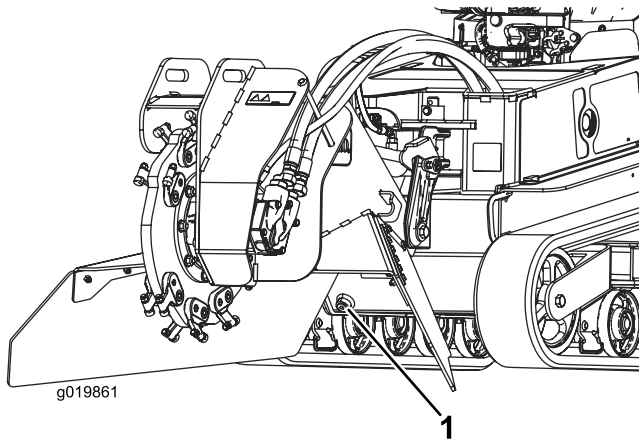

**Figure 61**
8. Remove the hydraulic tank drain plug and allow the fluid to drain into the pan (Figure 61).